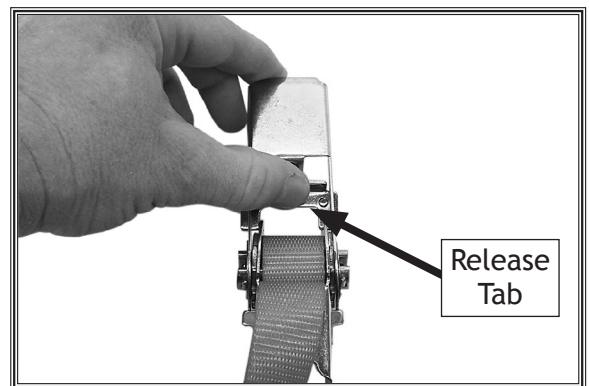

Figure 3. Releasing ratchet to remove webbing.
5. To release webbing, open ratchet fully to 180°, press spring-loaded release tab on ratchet handle, then pull webbing out (see Figure 3).